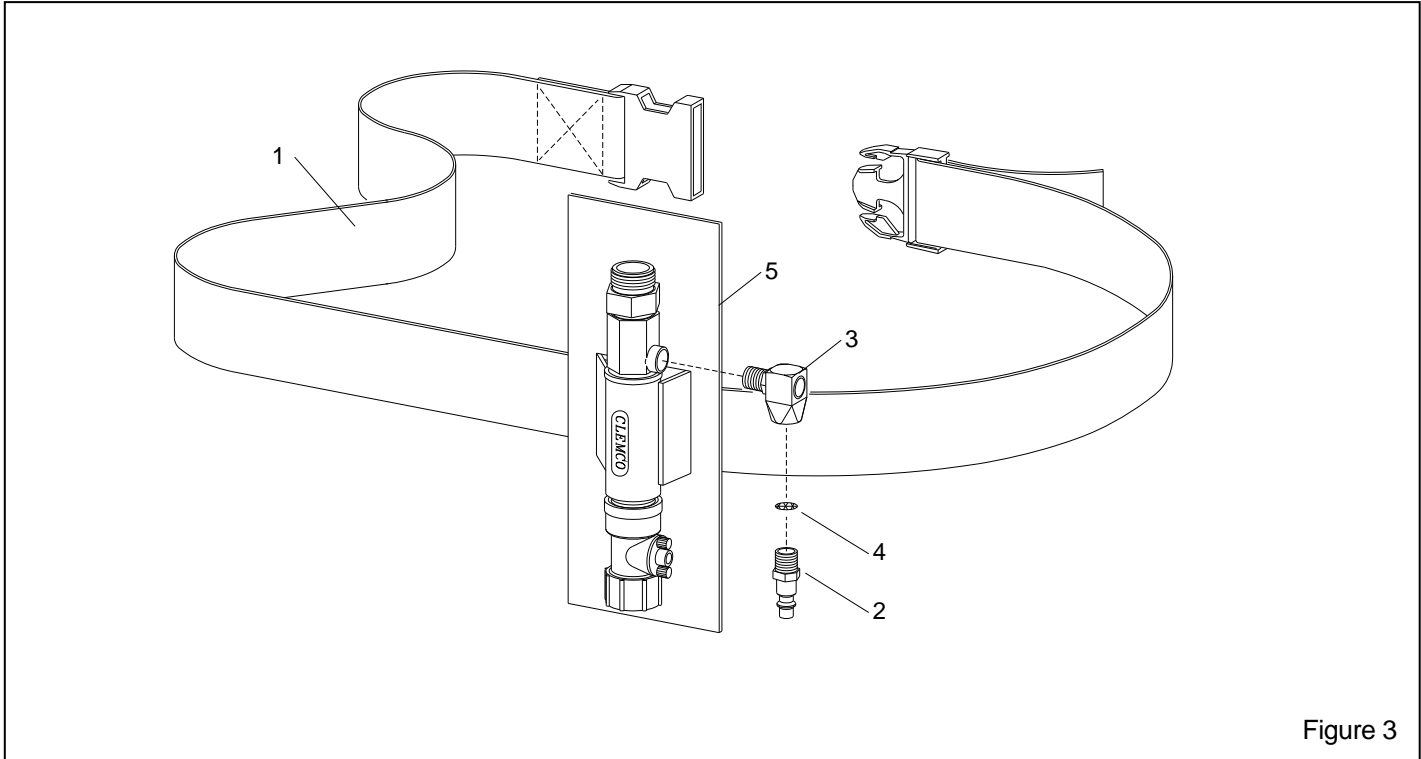

Figure 3
3.4.1 To adjust air temperature, rotate the temperature control valve (shown in Figure 3) located on the lower part of the air conditioner, toward "OFF" for ambient temperature or toward "ON" for maximum cooling. The valve may be positioned anywhere in between to attain the most comfortable temperature setting.
6.0 REPLACEMENT PARTS, FIGURE 3